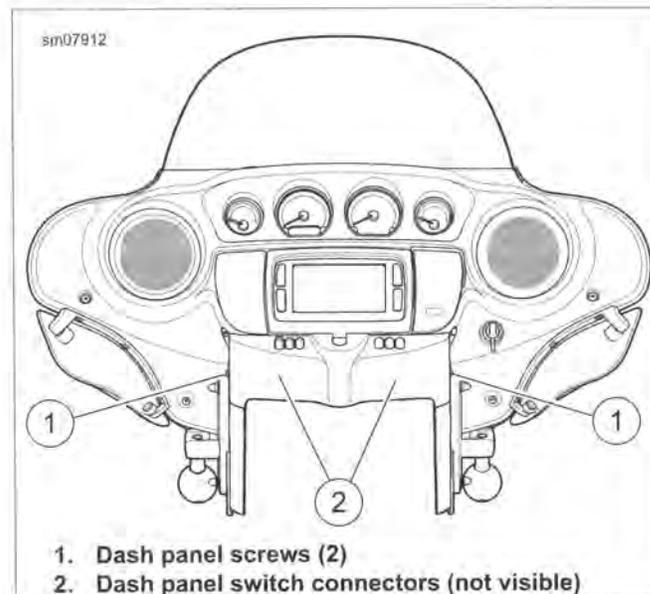

Figure 2-139. Dash Panel Screws
2. See Figure 2-139. Remove two screws (1) (with flat washers) to release dash panel.
3. Lift the dash panel and disconnect dash panel switch connectors (2).
1. See Figure 2-139. Mate switch connectors (2).
3. Install two screws (1) (with flat washers) to secure dash panel. Tighten to 25-30 **in-lbs** (2.8-3.4 Nm).